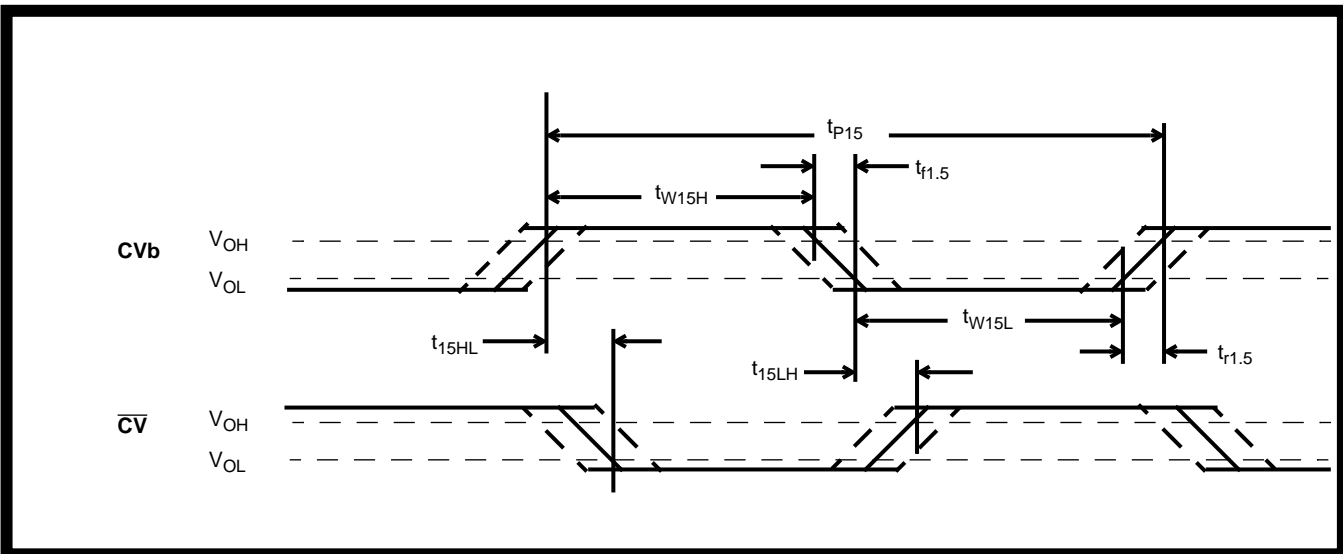

Figure 14 - Timing Information for DPLL #1 in NORMAL Mode
**AC Electrical Characteristics**†- Voltages are with respect to ground (VSS) unless otherwise stated. (Refer to Figure 14)
**AC Electrical Characteristics†** - Voltages are with respect to ground ( $V_{SS}$ ) unless otherwise stated. (Refer to Figure 14)